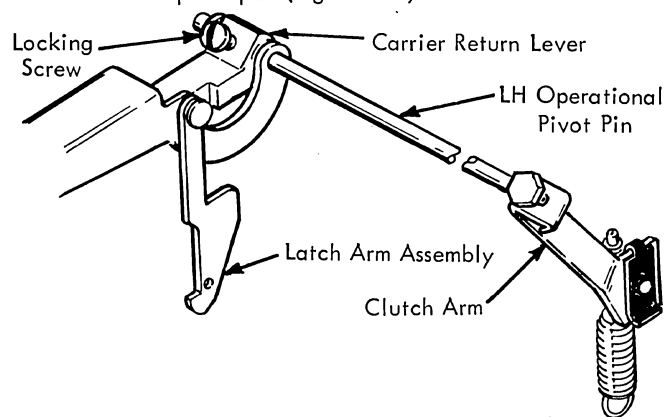

FIGURE 147.2 Carrier Return Lever Adjustment
- a. Carrier Return Lever - Position the carrier return lever laterally on the left-hand operational pivot pin so that the carrier return latch will hang vertical without binding against its interposer. Be sure to tighten the locking screw in the lever onto the flat portion of the pivot pin (Fig. 147.2).